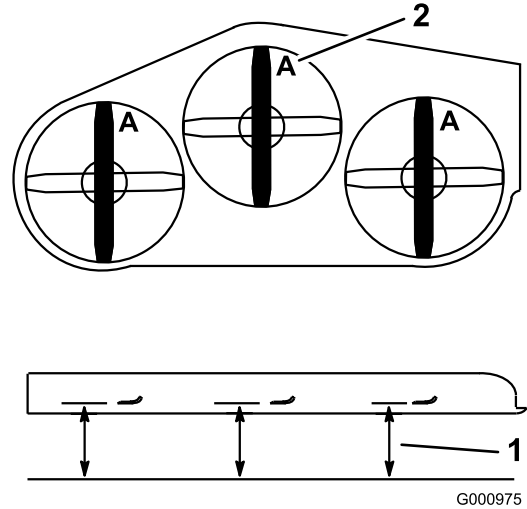

Figure 89
4. Measure at **A**, and from a level surface to the cutting edge of the blade tips (Figure 89).